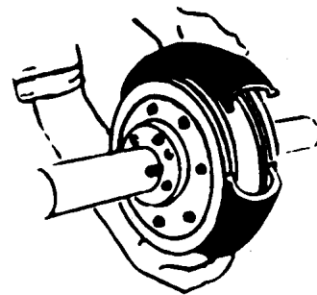

FIGURE 5
5. You may loosen the flange assembly screws as much as possible without disassembly of cover or you may remove the screws completely thus disassembling the cover. In either case wrap the flexible element around the flange assemblies as shown in Fig. 5. Make sure the beads of the element are fully worked down upon the seats of covers. To insure proper seating, rap on the tire O.D. with a small mallet until the split is closed.